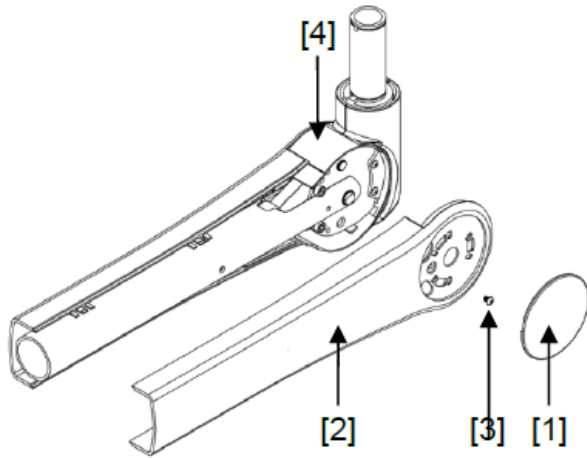
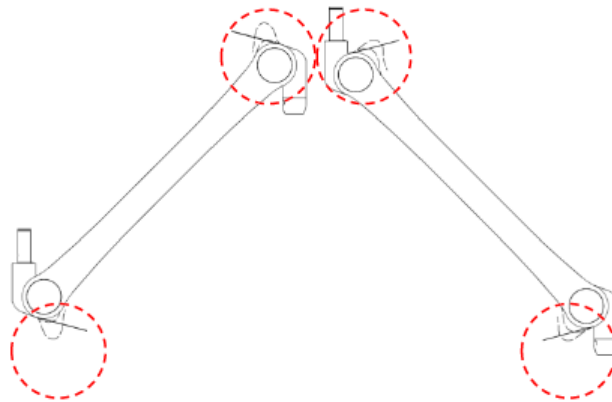

Figure 11: Removing Spring Arm Main Cover
Figure 13: Re-installing Sliding Cover Flaps
Removal: (Refer to Figure 11 - Figure 13)
3. Leave the flap covers extended (as seen in Figure 13), raise the spring arm to its highest and lowest positions and slide each flap into its groove when all other plastic covers have been assembled.